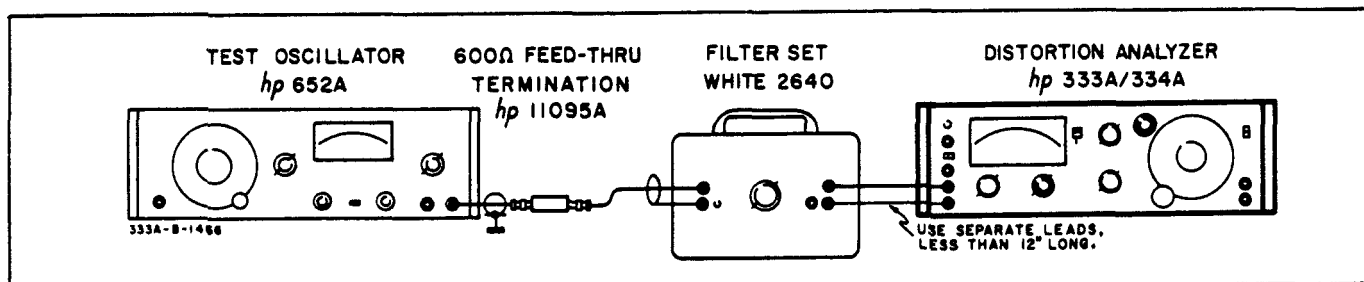

Figure 5-3. Instrument Induced Distortion Check
- a. Connect test equipment to 333A/334A as shown in Figure 5-3. Set filter pass frequency to 500 Hz.